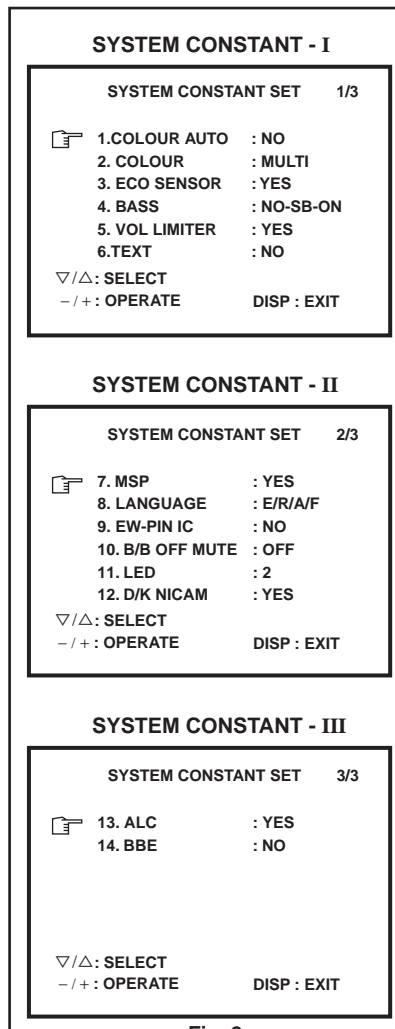

Fig. 2
- 2) In the SERVICE MENU, press the DISPLAY key and PICTURE MODE key simultaneously. Then, the SYSTEM CONSTANT SET screen will be displayed. (See Fig. 2.)